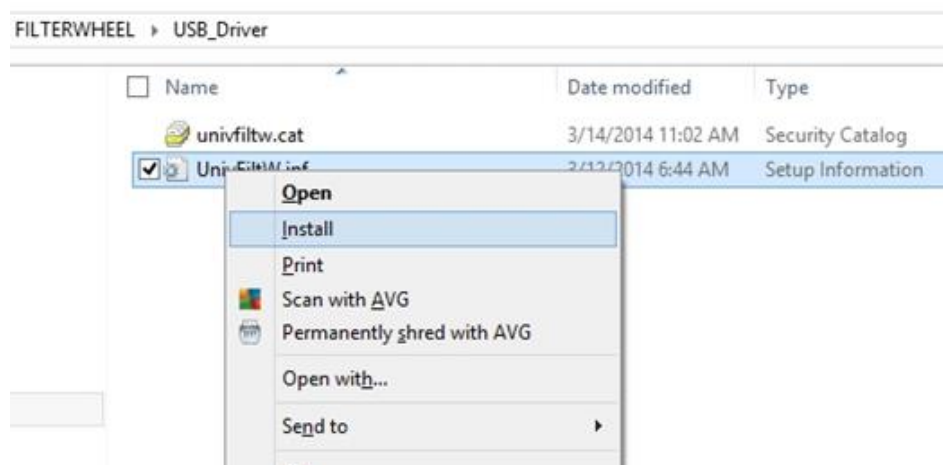

Figure 14: Setup Application
3. On the drive open the USB_Driver folder. Then Right click the **UnivFiltW.inf** file, shown in Figure 14, and Select Install from the dialog for driver installation. The install should indicate success when done. This installation takes just seconds to complete.